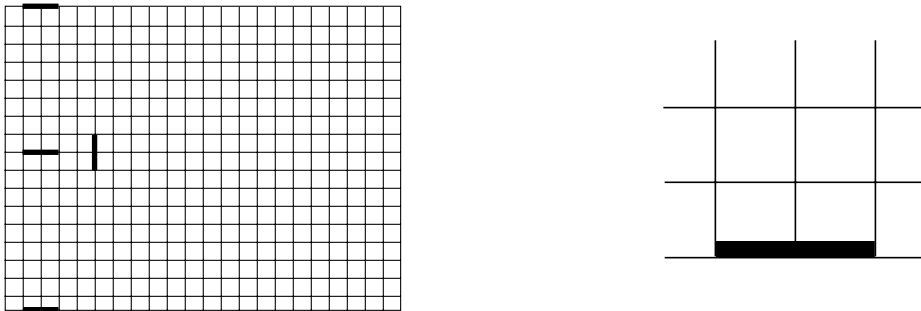

Fig.2
4) Clean the plate surface and then write an adjustment pattern. (See Figure 2.)
As shown in Figure 2, write the adjustment pattern using a black marker.